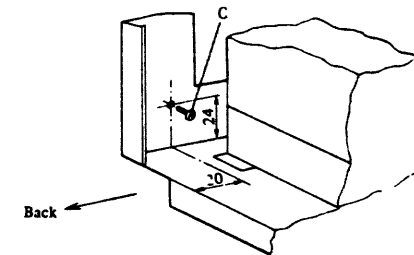

Figure 2.2.9 Mounting rails removal (3)
- (d) Remove the philips type screw C indicated in Figure 2.2.9. Remove the left side screw in the same manner.